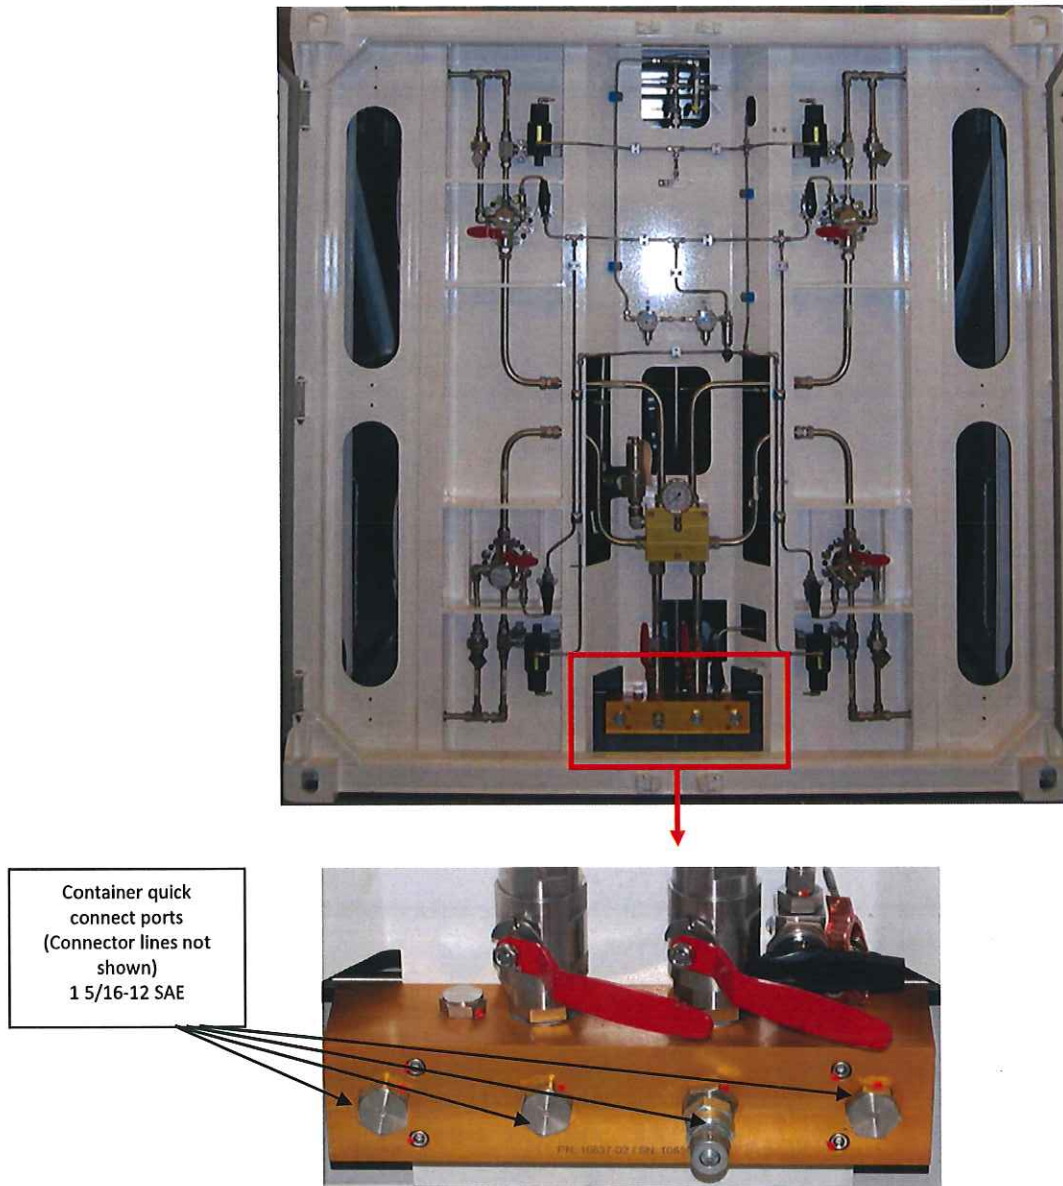

Figure 7: Container Fill Line
7. Connect the station’s fill line to the container’s fill line. Refer to Figure 7.
Note: The port used for unloading may be the same as the containers fill port as shown in Figure 7.